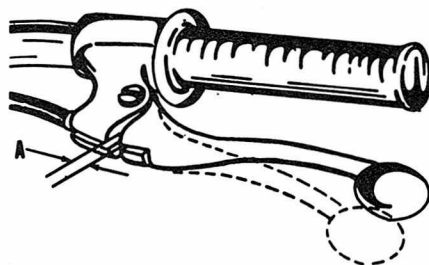
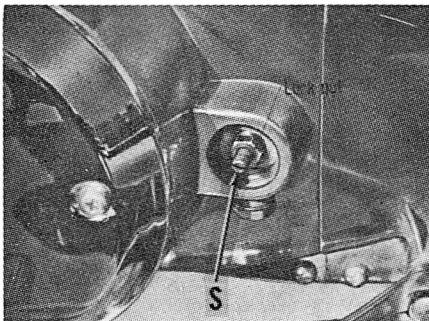

Fig. S4-7—Clutch hand lever free play should be measured at A. Refer to text.
Fig. S4-8 — View of clutch adjustment screw for S32-2. Model T10 is similarly located on left side.
**CLUTCH.** The clutch hand lever should have 4MM (0.16 in.) play at (A—Fig. S4-7). Normal adjustment is accomplished at the cable adjusters, however if nearly all cable adjustment has been used, refer to the following. Turn cable adjusters in and tighten screw (S—Fig. S4-8) until resistance is felt, then back screw out ½ turn and tighten lock nut. Adjust cable to provide correct hand lever clearance.